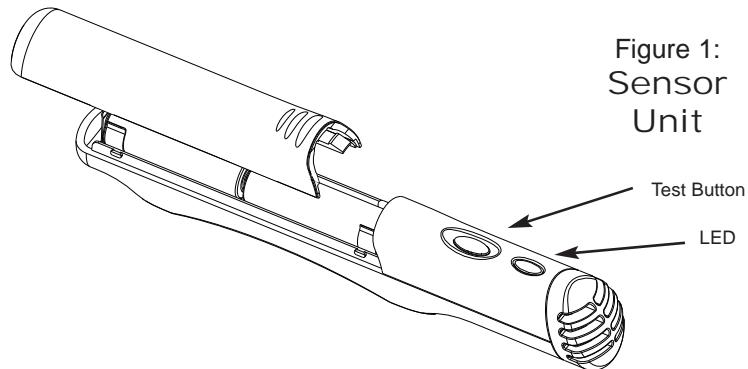

Figure 1:
1. Place 2 AA batteries in the sensor unit (Fig. 1).